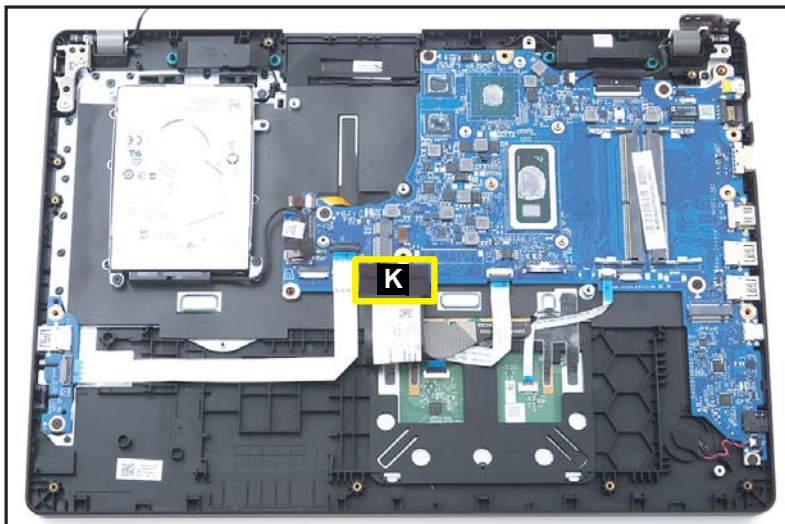

Figure 1-89. Replacing the Mainboard
11. Attach the tape (K) securing the keyboard FPC (Figure 1-89).